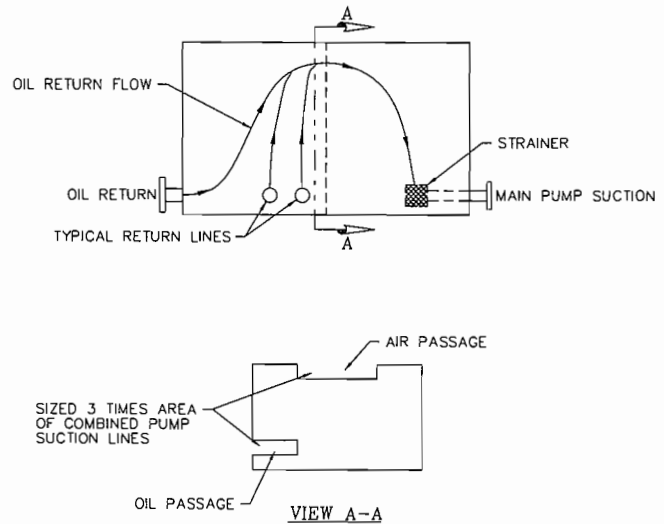
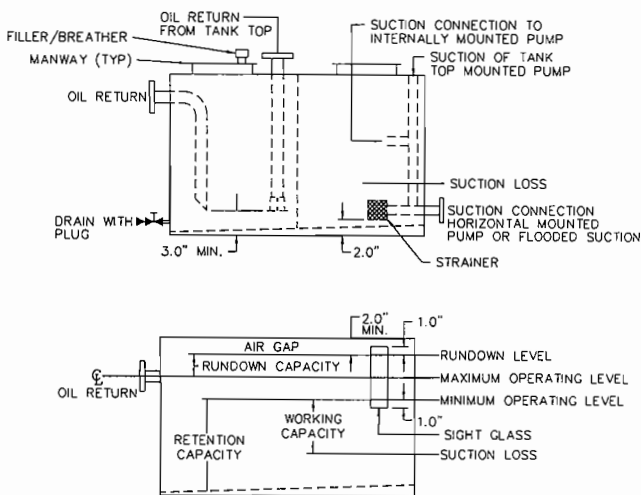

Figure 2. Reservoir Baffle Orientation and Design.
Figure 3. Reservoir Suction and Return Line Orientation/Reservoir Capacities.
- **Baffle**—The function of the baffle is to separate pump suction from oil returns. Oil returns include return from process pumps and auxiliaries, lube oil pump relief valves, returns from pressure control valves, filter vents, control valve head, and instrument vents. Baffles should have an air passage at the tank top equal to three times the area of the auxiliary and main pump suction lines combined. A baffled passage is strategically located two inches above the tank bottom. This baffle should have the greatest possible distance between the main pump inlet and return line to allow oil to pass from the return side to the suction side of the reservoir. The oil travel path shall be as long as possible from the time it returns to the reservoir until it reaches the pump suction to provide the maximum amount of time for settling of contaminants (Figure 2).
Refer to Figure 2 for baffle design and location. Figure 3 shows suction and return locations in the reservoir as well as reservoir capacities.
- **Rundown capacity**—is the amount of oil expected to return to the reservoir when the system is shut down. (If this is unknown, use 10 percent of the total capacity of the reservoir, refer to Figure 3 for details.)